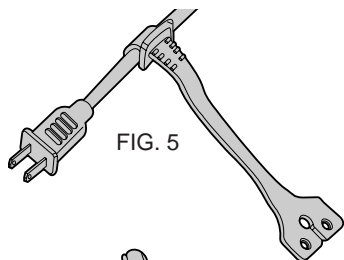

FIG. 5
2. Slip loop over electric plug and draw loop tight around cord (Figure 5.)